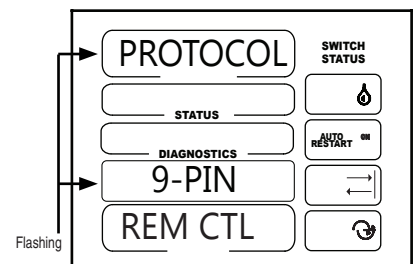

Figure 37-3
Settings include REM CTL (remote control), GPS V1, GPS V2, REMCTLV2, and SRVCTOOL (service tool). The default is REM CTL. See figure 37-3.
1. PROTOCOL 9-PIN should be flashing. See figure 37-3.